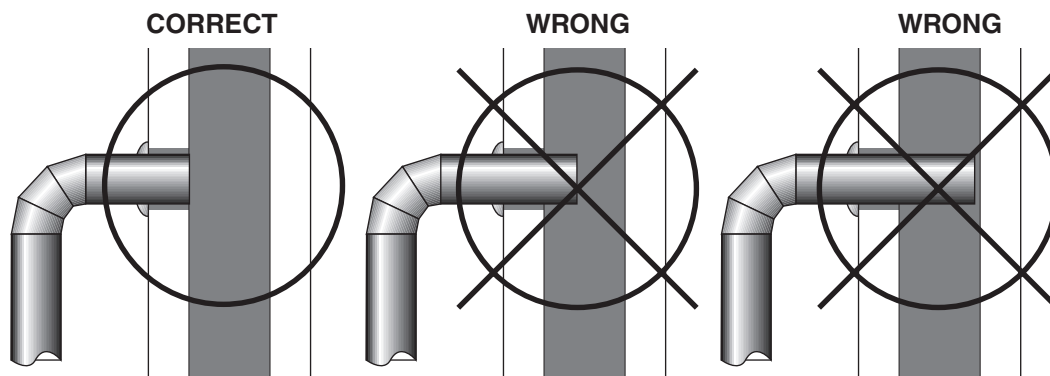

Fig. 7 – Stovepipe/Flue Connections
1. The crimped end of the stovepipe fits inside the stove flue collar. Secure with three (3) sheet metal screws. The first section of connector pipe must be single walled to properly attach to the stove collar. Install additional pipe and elbow with the crimped end towards the stove. This will allow any condensation in the flue to run back into the firebox.
4. The pipe cannot extend into the chimney flue (figure 7).
6. It is recommended that no more than two (2) 90° bends be used in the stovepipe installation. The use of more than two 90° bends may decrease the amount of draw and possibly cause smoke spillage. Where possible, use only corrugated (non adjustable) elbows. These provide a better seal.
2. Install a metal or fire clay (5/8”/16mm minimum thickness) thimble. Make sure the thimble is flush with the inner surface of the chimney liner and does not protrude into the flue (see figures 7–8 on pages 8–9).
4. Install the stovepipe into the thimble as far as possible without extending past the flue lining (see figures 7–8 on pages 8–9).